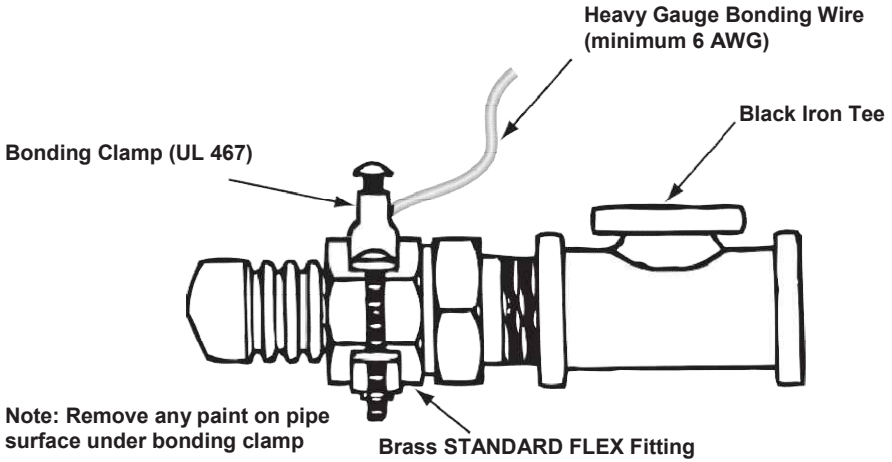
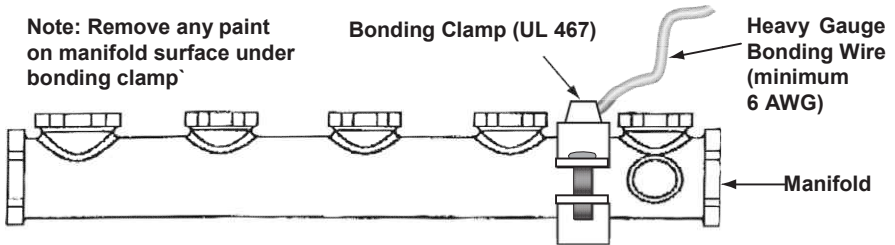
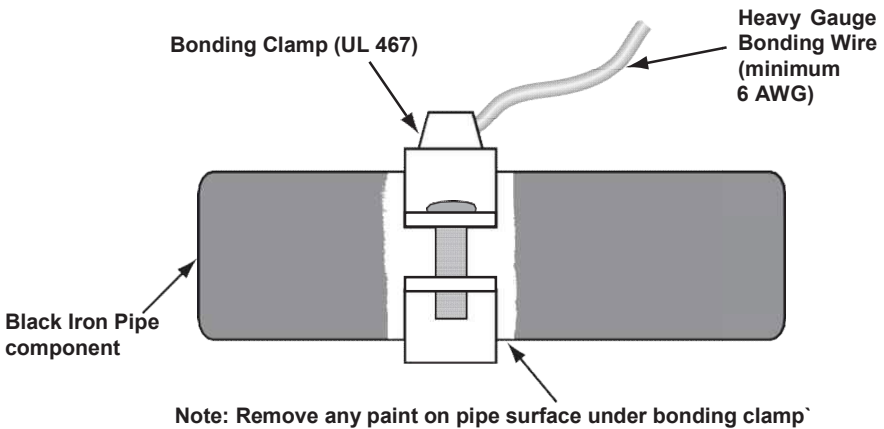

Figure 4.27 Bonding Connection to Brass Fitting
Figure 4.28 Bonding Connection to Steel Manifold
Figure 4.29 Bonding Connection to Rigid Black Iron Pipe
- Attachment between the CSST gas piping system and the bonding clamp must be made by connecting to an STANDARD FLEX brass fitting (Figure 4.27), steel manifold (Figure 4.28), or any rigid pipe between the first CSST fitting in the system and the meter (Figure 4.29). Under no circumstance is the STANDARD FLEX CSST tubing of the gas piping system to be used as the attachment point for the bonding conductor.